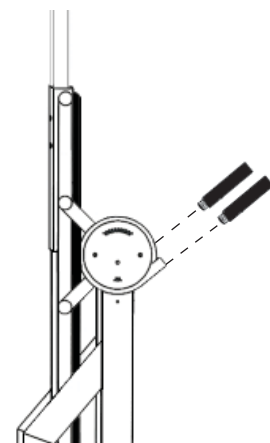

Figure 3
- Screw the Handles into the arms on both sides of the Bed Frame Assembly (See Figure 3).